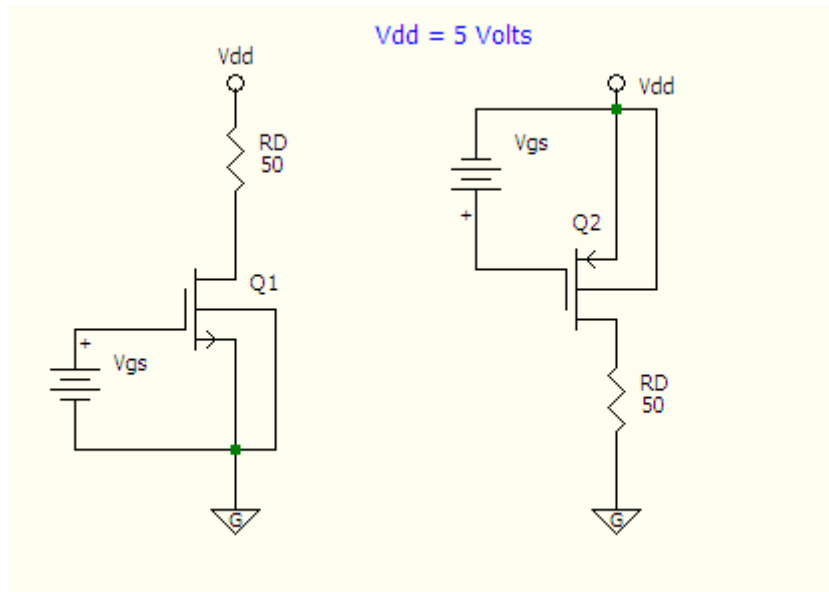
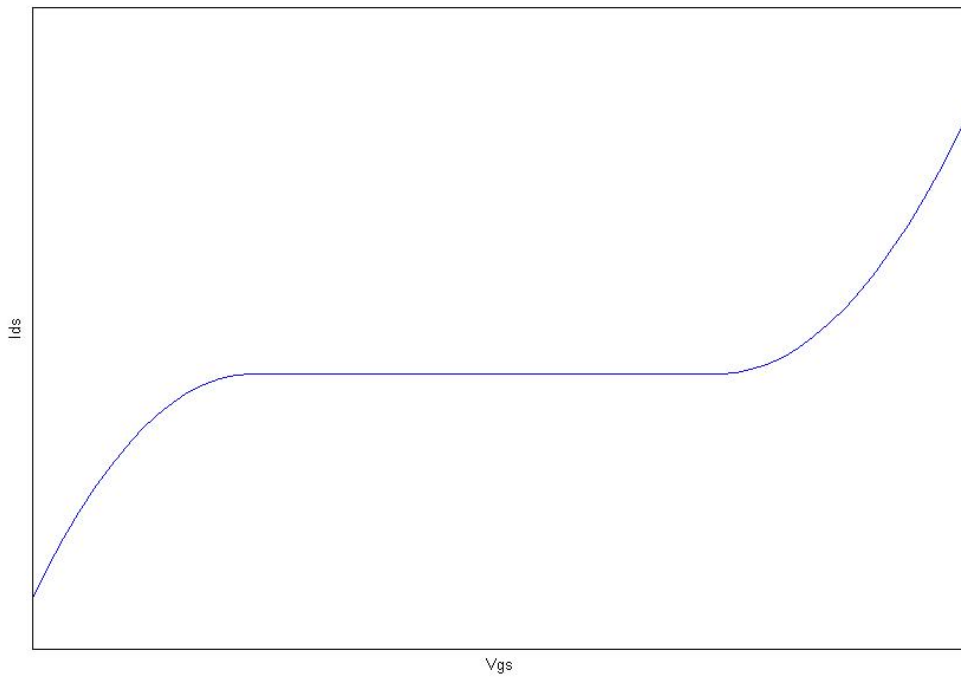

Figure 1 V_{gs} vs I_{ds} investigation for NMOS and PMOS
Figure2 An Exemplary V_{gs} vs I_{ds} curve
a) Use the parameters given in Table 1 as inputs for a MATLAB program that plots I_{ds} as a function of V_{gs} for circuits given in Figure 1. $|V_{gs}|$ might vary in between 0 and 1.5 Volts. Attach your code. Your graphs will look like the following (Figure2). Be careful with the signs and clearly indicate the NMOS and PMOS plots. Make all necessary assumptions. Ignore the voltage drop over the resistance (RD) at the drain sides.
b) Now, he builds the same circuit given in Figure1 (circuit for the NMOS transistor) to estimate the threshold voltage (V_{th}) and K_n . For the same circuit ($R_D = 50$ Ohms, $V_{dd} = 5$ Volts), he measures I_{ds} for different values of V_{gs} and notes them down (Table 3). Using the measured values in Table3, extract V_{th} and K_n for this transistor. Make all necessary assumptions.